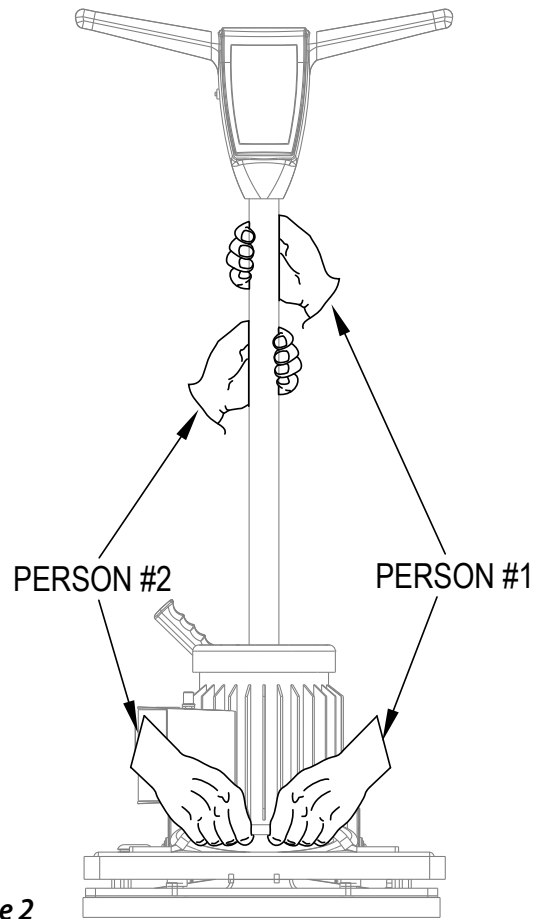

Figure 2
- 3 Grasp the machine at the lift points (see Figure 2) and place in cargo area.